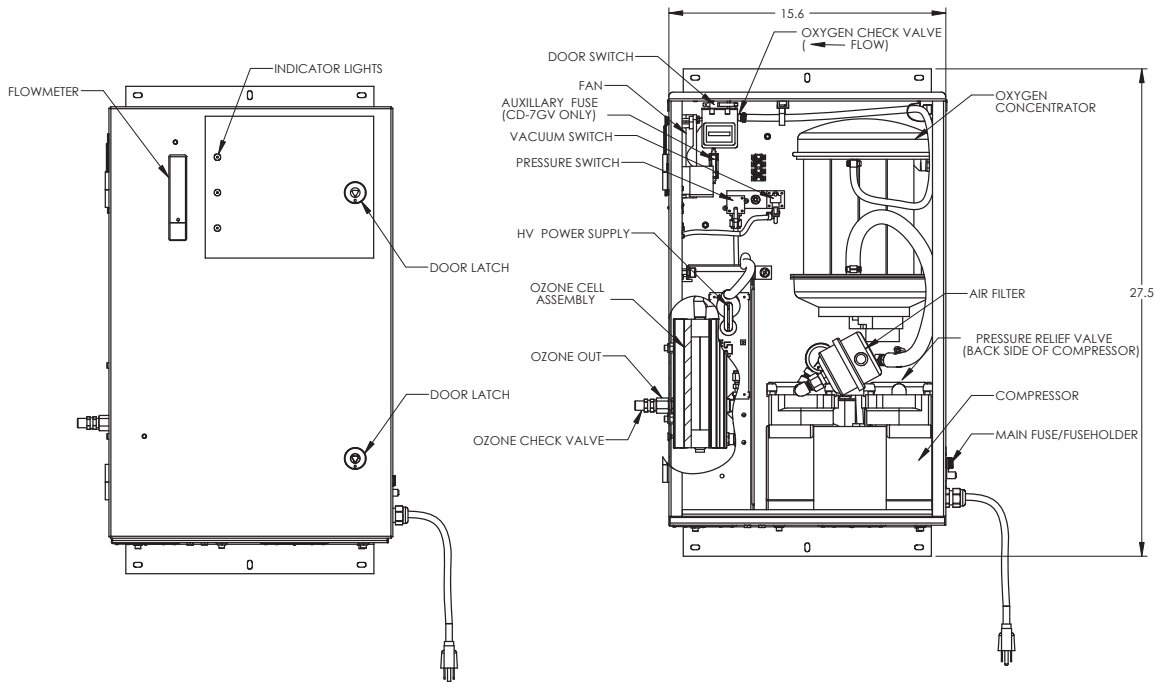

Figure 4: Component Locations
*Refer to Figure 4* for component locations.